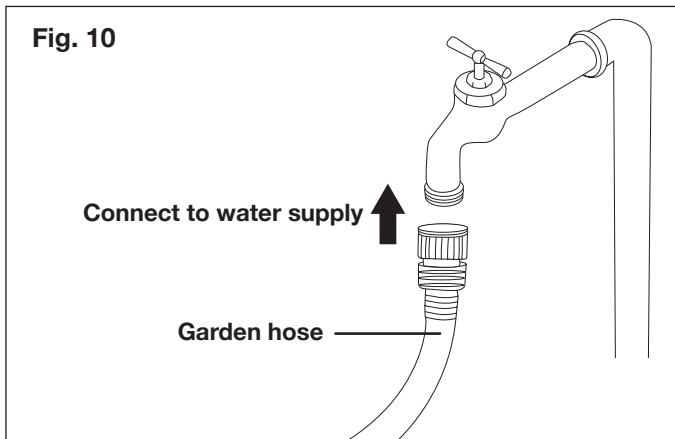

Fig. 10
10. Attach garden hose to water supply (Fig. 10).